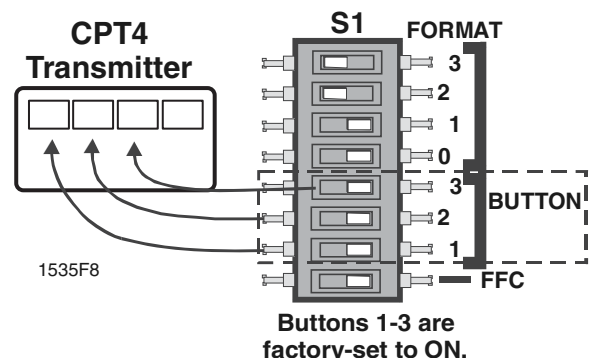

Figure 4: CPT4 Transmitter Button Switches
- There are three DIP switches used to set the transmitter button response(s) (Figures 4 or 5).